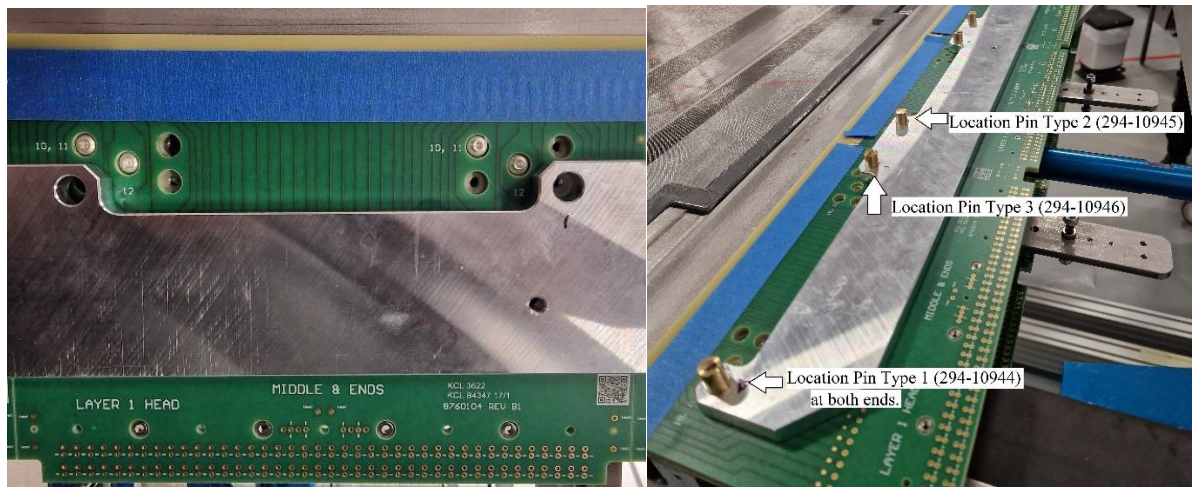
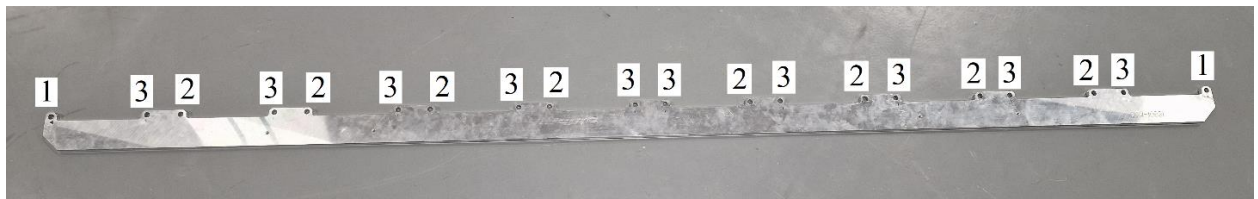

Fig 3 Headboard Alignment tool with Location Pins
Fig 4 Order of the Location Pins
9.1.4 Place all X layer head boards (P/N 8760104) onto the APA head beam, lining up the screw holes. Rest the X board alignment jig (294-10931) on top of the boards, and align this with the outer holes of the board, see Fig 3. Once in place insert and screw in location pins 1 (2 x 294-10944) at either end of the jig, followed by location pins Type 3 (10 x 294-10946) in the holes marked on the alignment tool, and the remaining holes with location pins Type 2 (8 x 294-10945). See Fig 4 for order of the location pins.